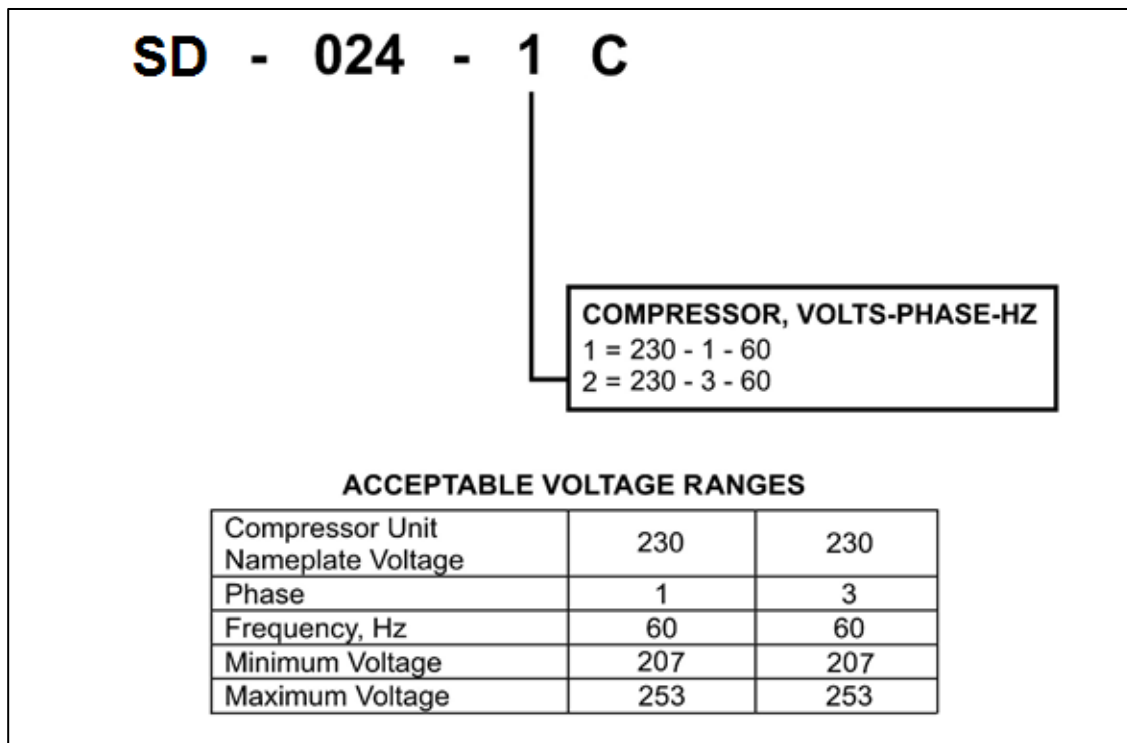

Figure 36. Compressor Unit Voltage Information
After setting the remote (wall) thermostat system switch to the “OFF” position and the thermostat fan switch to the “AUTO” position, proceed to check the supply voltage at (1) the line terminals to the breaker/disconnect; 2) the system side of the breaker/disconnect, and 3) the line-side of the transformer. Verify the proper voltage rating for the system. Reference Figure 36.
4. **Check incoming power supply voltage** to determine whether it is within acceptable voltage range. (See Figure 36)
5. **Check voltage at compressor unit terminals** to determine whether it is within acceptable voltage range. (See Figure 36)